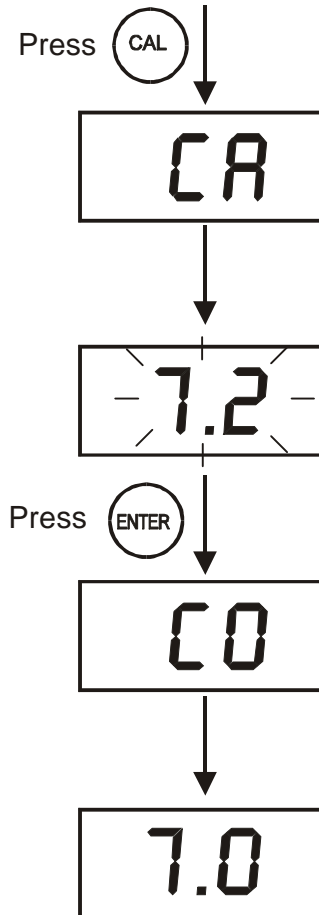

Figure 3 - pH Calibration
5. Press the ▲ or ▼ keys to adjust the display to match the calibration standard value. Press the ENTER key. "CO" will flash on the display. The reading should now display the same value as the calibration standard. See Figure 3.